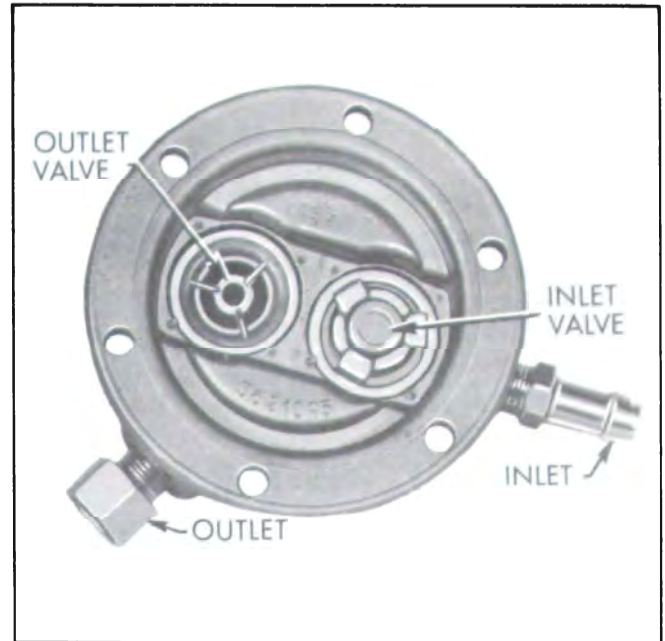

Figure 3-19—Valves in Fuel Cover
4. Place a new gasket in each valve seat in fuel cover. Place valve in seat nearest "IN" connector with spring cage facing up. Place other valve in outlet valve seat with spring cage down. See Figure 3-19.